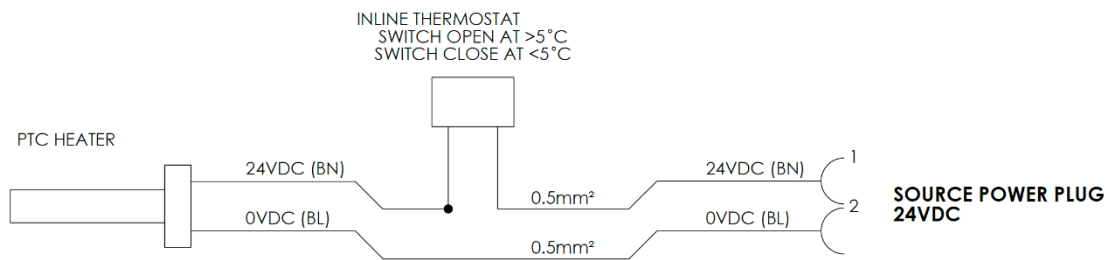

Figure 12 – DEF Heater electrical wiring details
- Connect to appropriate 12 - 24VDC power supply, as defined in Table 2, utilising the 2-pin DT Series Deutsch receptacle fitted the DEF Heater. Refer to Figure 12 for DEF Heater electrical wiring details